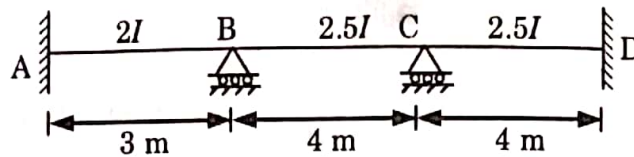

Fig. 12.
- b. Analyse the continuous beam as shown in Fig. 12 by stiffness matrix method if the support B sink by 10 mm. Take $EI = 6000 \text{ kN-m}^2$.